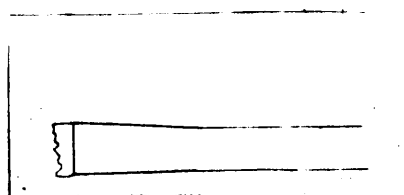

Figure 4.
3. After the end has been tapered down to a thin edge, square off the end. (Figure 4). Let the chisel cool gradually.